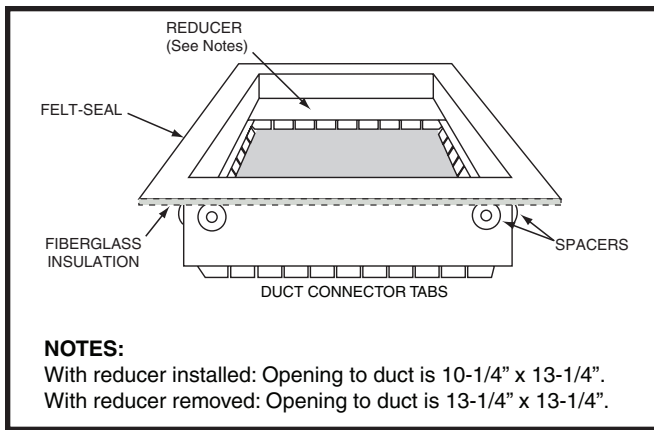

Figure 12. Duct Connector
- This furnace is certified for use on wood flooring or supports, but must not be installed directly on carpeting, tile, or any combustible material other than wood flooring. **NOTE:** The furnace may be installed on combustible flooring when installed on a manufacturer approved duct connector. See Figure 12 \(page 15\). This factory supplied accessory must be installed in the floor cavity and attached to the supply air duct before the downflow furnace is installed.
The MG3S series gas furnace is certified for use on wood flooring or supports, but must be installed on a special duct connector (Figure 12). This factory supplied accessory must be installed in the floor cavity and attached to the supply air duct before the downflow furnace is installed.